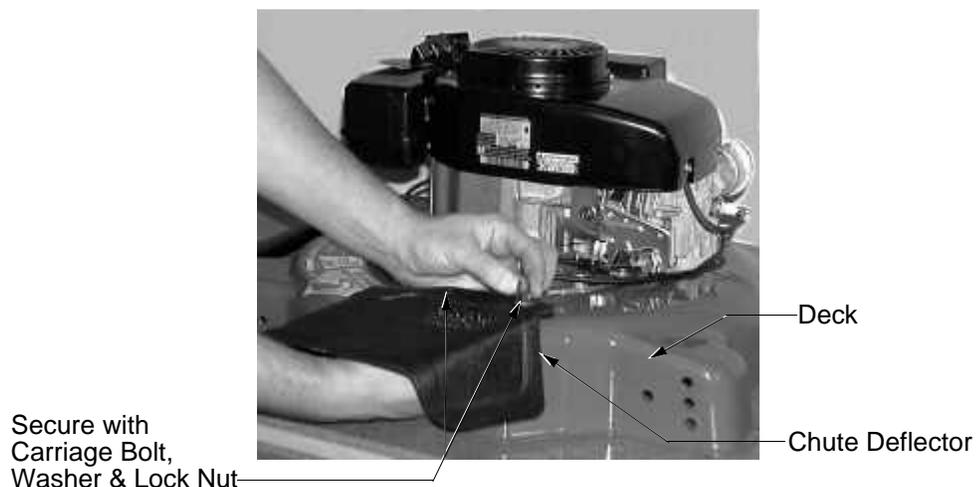

FIGURE 10
- Secure each bolt with a washer and lock nut. See Figure 10.